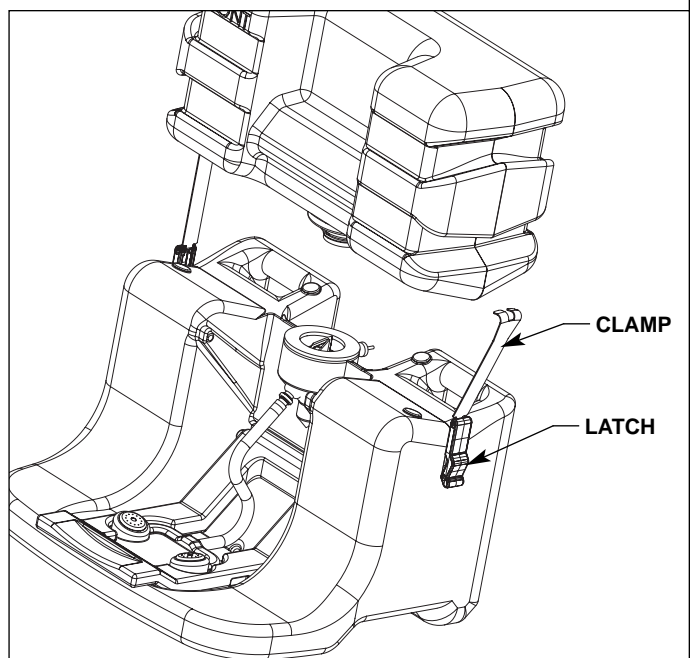

Figure 2b
- S19-921 ONLY: Raise the arm to snap fit in an upright position, then secure the tank to the pedestal using the side tank clamps. Make sure the latches are pulled down tight to the pedestal (see Figure 2b).